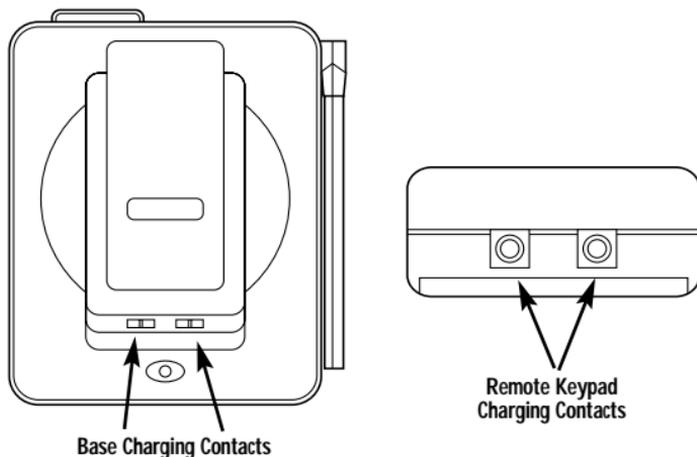

Figure 2-7. Checking the battery connections.
- If the In Use/Charge indicator fails to light when placing the keypad in the base unit, you may need to clean the contacts on the keypad and base. Use a pencil eraser to clean the contacts (see Figure 2-7).